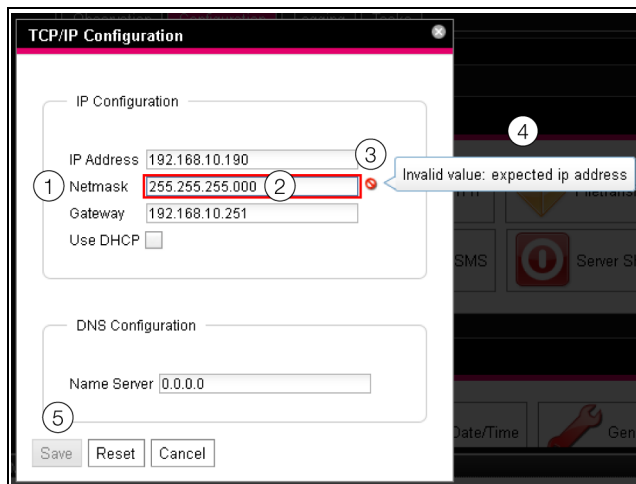

Fig. 108: Display of an incorrect entry
- A red "prohibited symbol" (fig. 108, item 3) appears after the incorrect entry (fig. 108, item 2) in the **Netmask** field (fig. 108, item 1)
- By holding the mouse pointer over the prohibited symbol, additional information about the error will appear (fig. 108, item 4).
- The **Save** button is deactivated (fig. 108, item 5), so that the current values cannot be saved.